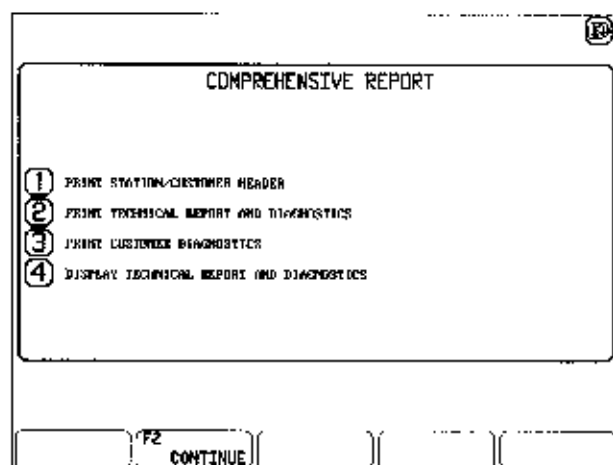

Figure 3-1
16. The "Comprehensive Report" screen appears (see Figure 3-1).